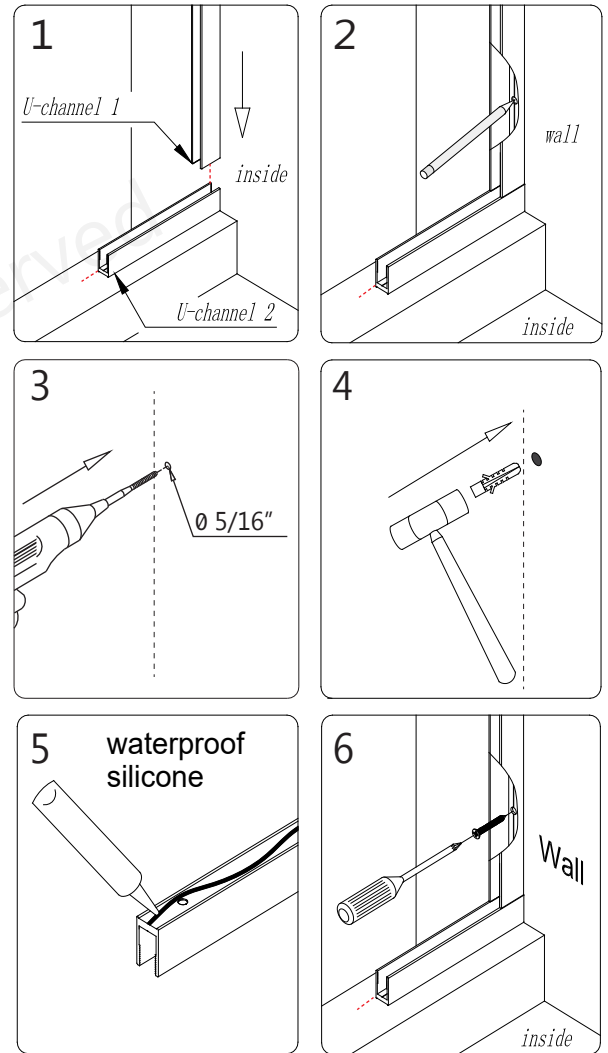

Fig 13
- Apply silicone to the back of the **U-channel 1 (#09) (wall profile)** and attach it to the wall using the **ST4.2 x 40mm Countersunk screws (#23)**. (**Fig 13**)